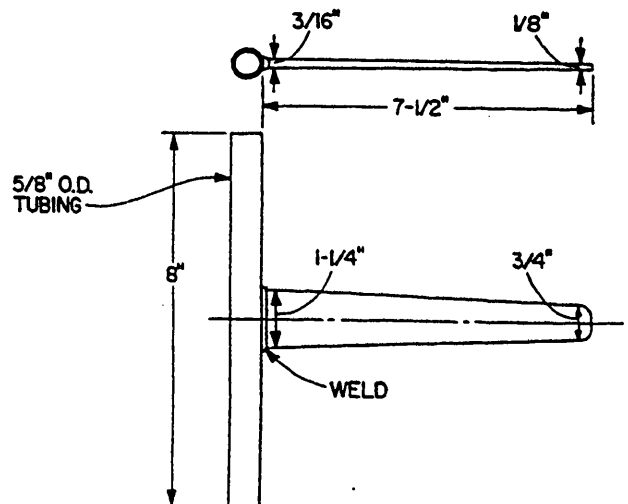

Figure HE-104-14 -- Coil Spacing Tool
Special Tool Required: Same as for DISASSEMBLY above plus a coil spacing tool as shown in Figure HE-104-14.
- e. Space the coil tubes evenly throughout the Heater, with each tube space at least 1/2" wide. It is especially important that no tubes rest on any coil unions. A spacing tool may be made up similar to that shown in Figure HE-104-14 (available from AERCO, Part No. 12523). Insert the tool flat between the coil tubes and twist the tool until the desired spacing is obtained.
- R8. Clean all gaskets and gasket surfaces thoroughly. AERCO recommends that new Gaskets (54) be used whenever reassembling either the top or bottom head to the shell.
- R9. If the Heater top Head (37) has been removed from the Shell (58):
- Clean the gasket surfaces thoroughly and place a Gasket (54) (a new gasket is recommended) on the shell top flange.
- Reassemble the Studs (53) and (62), the Lifting Lugs (Eye Bolts) (52), and Nuts (51) into the head and shell flanges. Cross-tighten the Nuts to approximately 75 ft-lb torque to obtain uniform seating. Then progressively tighten the Nuts to approximately 150 ft-lb torque for a tight seal.
- R10. Place the Gasket (54) on the Heater bottom head flange.
- R11. Using a hoist or block and tackle attached to the Lifting Lugs (52) on the Heater top Head (37), CAREFULLY lower the top head and shell STRAIGHT DOWN over the coil and riser assembly. DO NOT SCRAPE the shell lining against the coil tubing.